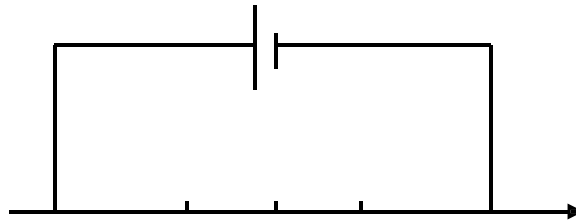

Fig.26: Four-pole Electrical Sounding (4P-WES)
As shown in Fig.26, this setup features both power (AB) and measuring (MN)